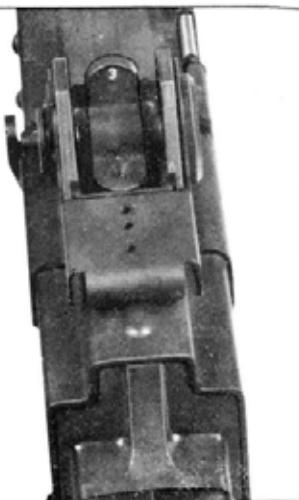

Fig. 8
- la seconda, tarata fino a 300 metri (fig. 8)
- the second aperture is adjusted for a distance of 300 meters (see figure 8)